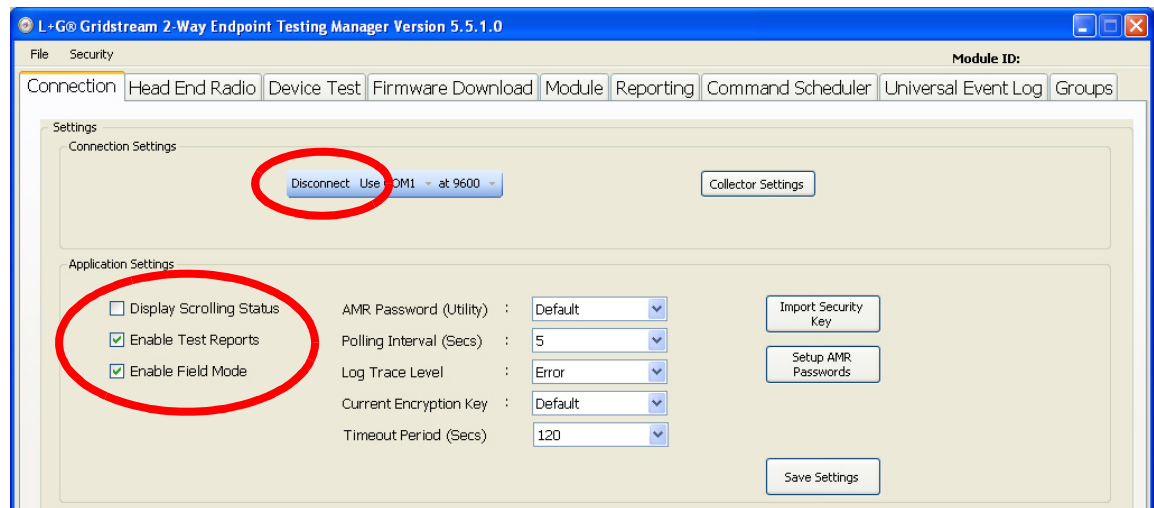

Figure 2 - 10. Connect to Head End
- Choose the COM port from the drop-down menu and then click on **Connect**. Figure 2 - 10.